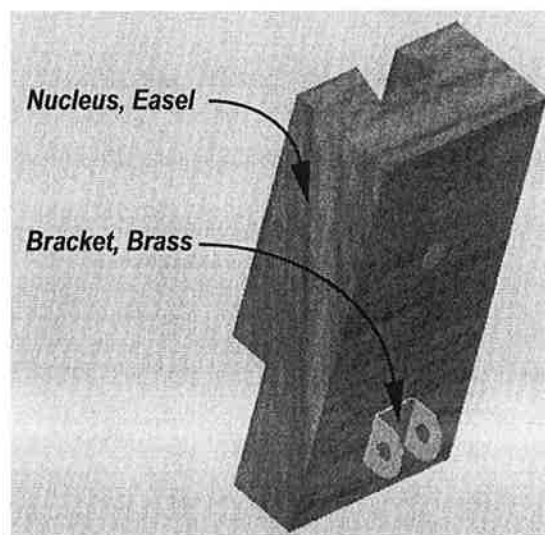

Figure 16–34
5. In the BROWSER or in the graphics window, select the Nucleus, Easel and Bracket, Brass components, as shown in Figure 16–34. A shaking animation is displayed indicating that the two components are now rigidly connected.
8. Create an as-built Rigid joint between the Support, Slide and Support, Top components, as shown in Figure 16–35. Rename the joint as **Slide/Top Support**.